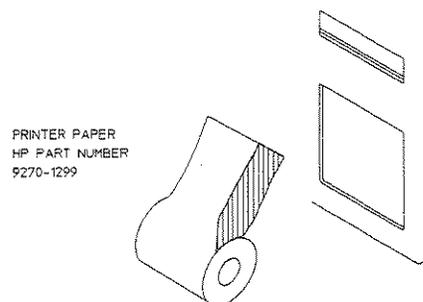

Figure 2-2. Paper Feed Direction
3. Undo the new roll of paper and place in the printer compartment such that the paper feeds up the open end of the compartment (See Figure 2-2).
4. Using scissors cut the first 2 inches of the paper as shown in Figure 2-2.